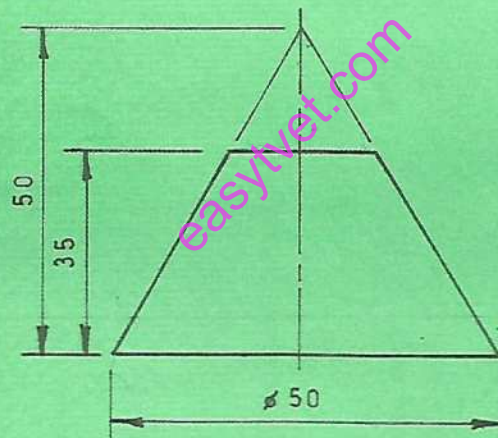

Fig. 6
6. Figure 6 shows a right cone of base diameter 50 mm and a height of 50 mm cut at a height of 35 mm.